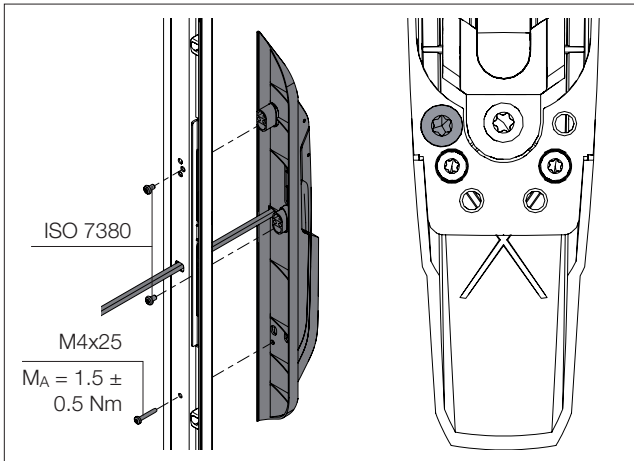
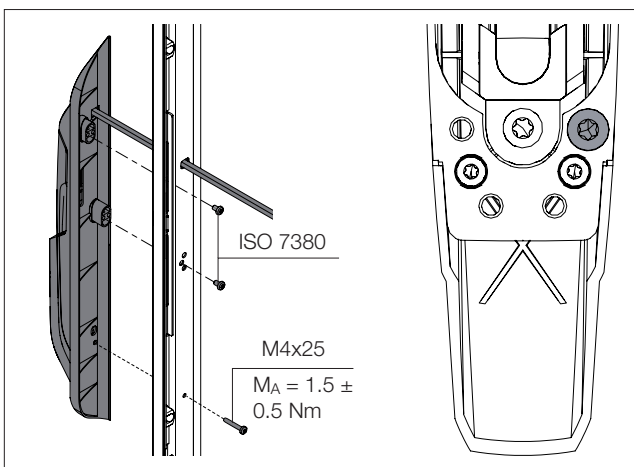

Fig. 22: Screw-fastening the designer compensating panel including comfort handle (hinge on right)
Fig. 23: Screw-fastening the designer compensating panel including comfort handle (hinge on left)
- Screw the designer compensating panel including comfort handle to the VX IT glazed door, depending on the position of the hinge (fig. 22 or fig. 23, $M_A = 1.5 \pm 1 \text{ Nm}$).